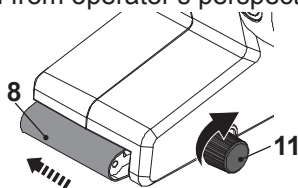

Fig. 5
- Turn the tracking adjustment knob (7) anticlockwise to adjust the sanding belt (8) to the right (as seen from operator's perspective) (Fig. 5).